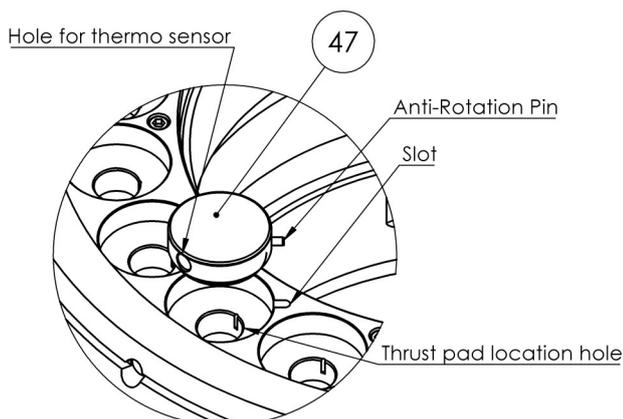
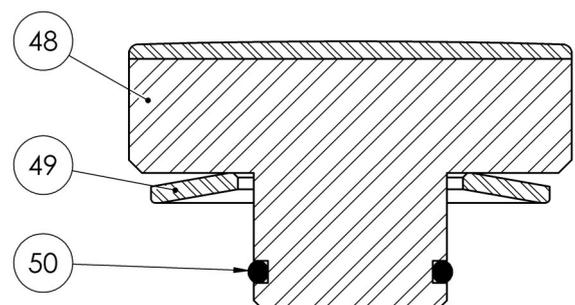

Fig. 50
Fig. 51: Thrust pad set
- Find the thrust pad (47) with an anti-rotation pin and a hole for thermo sensor. Then locate the corresponding slot in the pad ring (45).
- Insert the thrust pads with the anti-rotation pin into the corresponding thrust pad location hole (Fig. 50).
- Check the mobility of all thrust pads. If the thrust pads grips, realign the pad ring (45).
Note: The thrust pad set (47) consist of a thrust pad (48), an o’ring (50) and a spring washer (49) (Fig. 51).